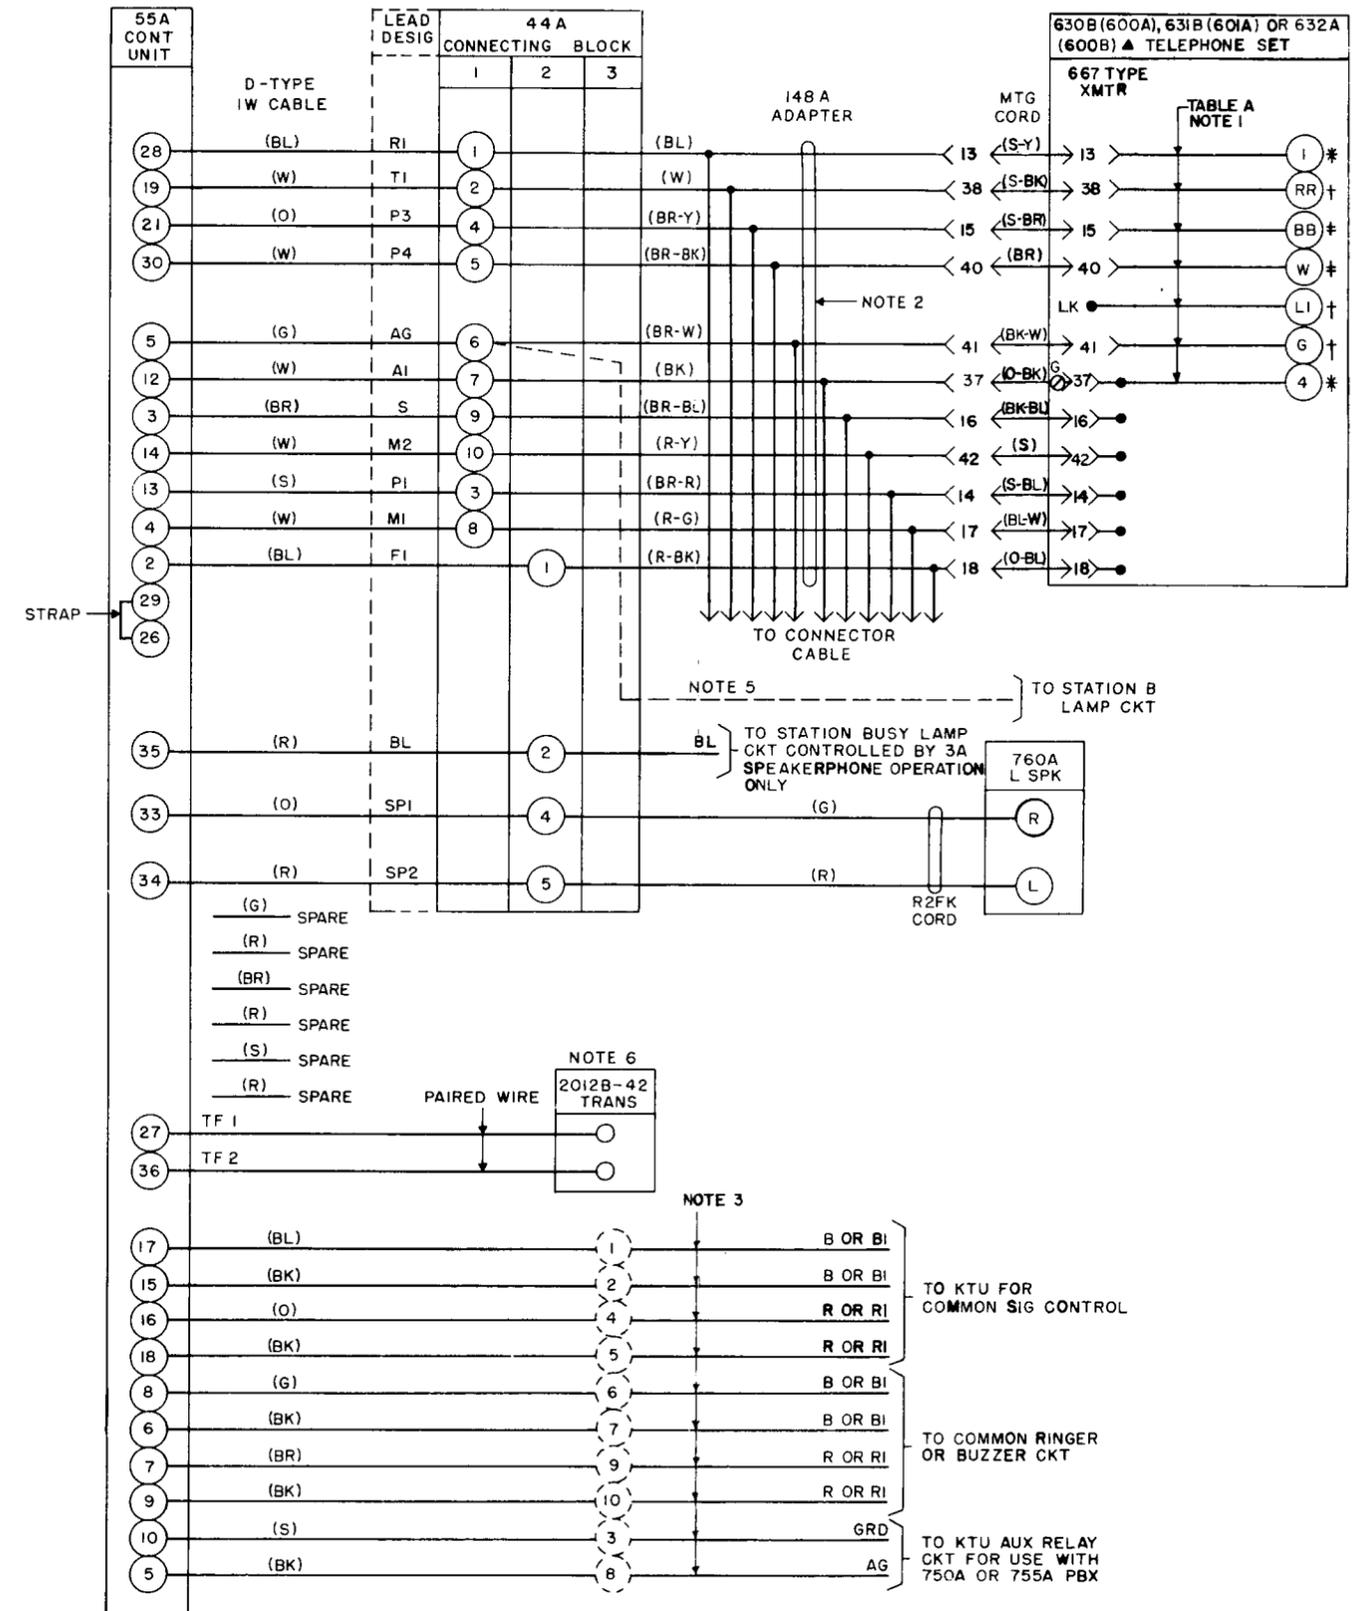

Fig. 2 - 630B (600A), 631B (601A), or 632A (600B) Telephone Sets with 667-Type Transmitter Unit
- Change Fig. 2 to show connections for 630-, 631-, and 632-type telephone sets equipped with Manufacture Discontinued (MD) cords.